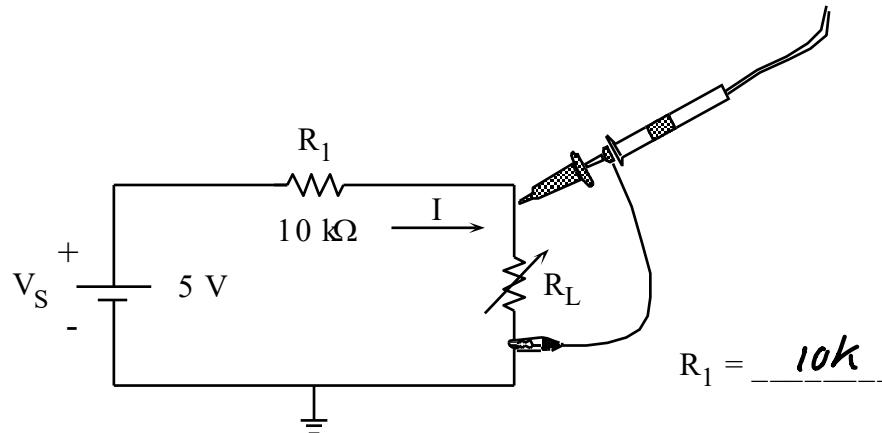

Figure 1.2 Simple voltage divider circuit with oscilloscope probes shown.
- d) Repeat parts (a) - (c) but use the oscilloscope instead of the DVM (see Fig. 1.2). Record your values in Table 1.2. Measure and record the actual value of R_1 . Note that the measurement has to be taken as $V_{R1}=V_S-V_{RL}$.